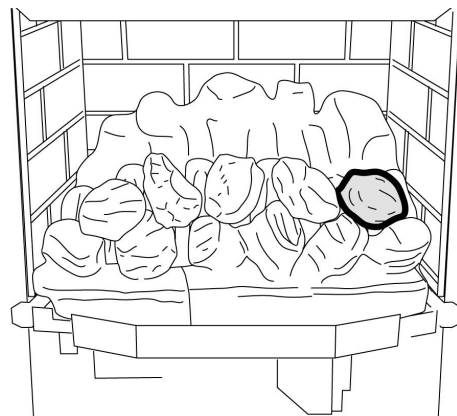

Figure 8. Second row "Coal F"
**10.** Hold coal 'F' upright with the arrow pointing to the top. Locate coal 'F' as shown in figure 8.